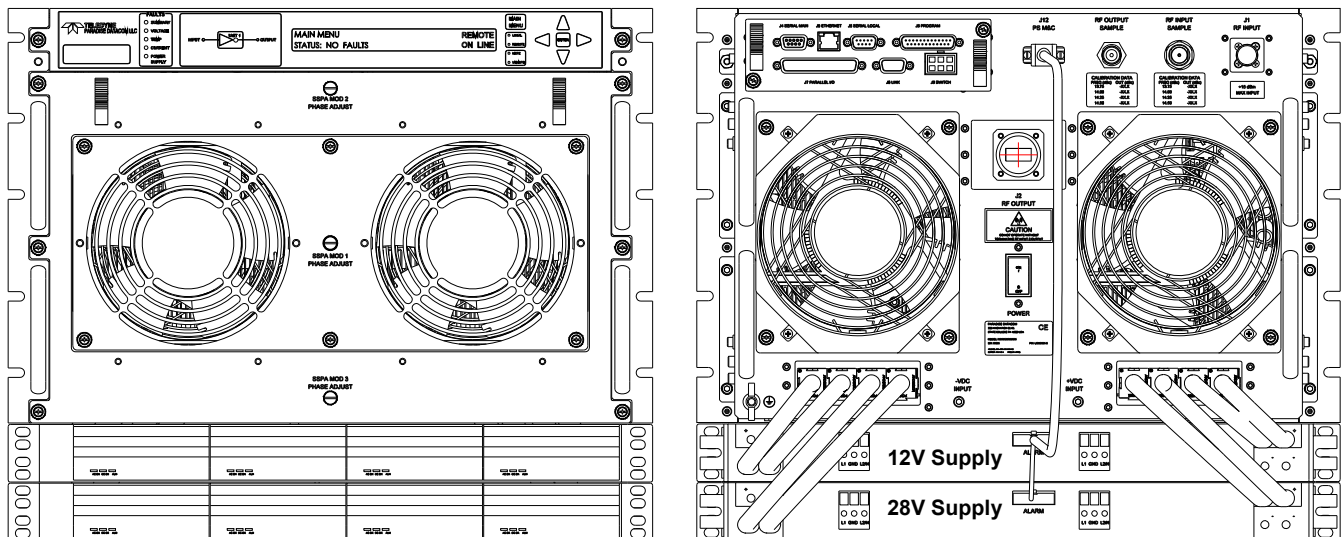

Figure 2-12: Dual 1RU Power Supply Option
The 600W Ku-Band 7RU SSPA requires two (2) 1RU power supplies; one 12V supply and one 28V supply. See **Figure 2-12**.
The DC output is provided by eight (8) sets of cables attached to the Power Supply DC output buss bars that connect to the SSPA via a series of quick-disconnect high current in-line connectors. As shown in **Figure 2-12**, the outputs of the 12V supply plug into the two (2) inputs at the far left and far right of the amplifier.